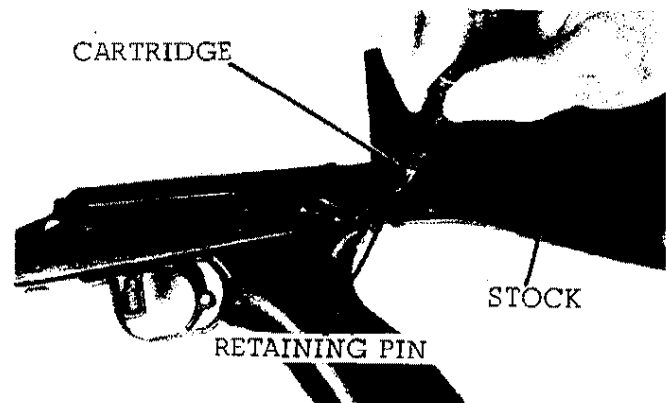

FIGURE 24. REMOVING THE STOCK RETAINING PIN
- (1) To remove the stock from the trigger housing group, remove the stock retaining pin (figure 24).
- (2) Rotate the bottom of the stock upward and remove.
(1) Replace the stock by inserting it in the rear of the trigger housing group.
(2) Insert the stock retaining pin (figure 24).